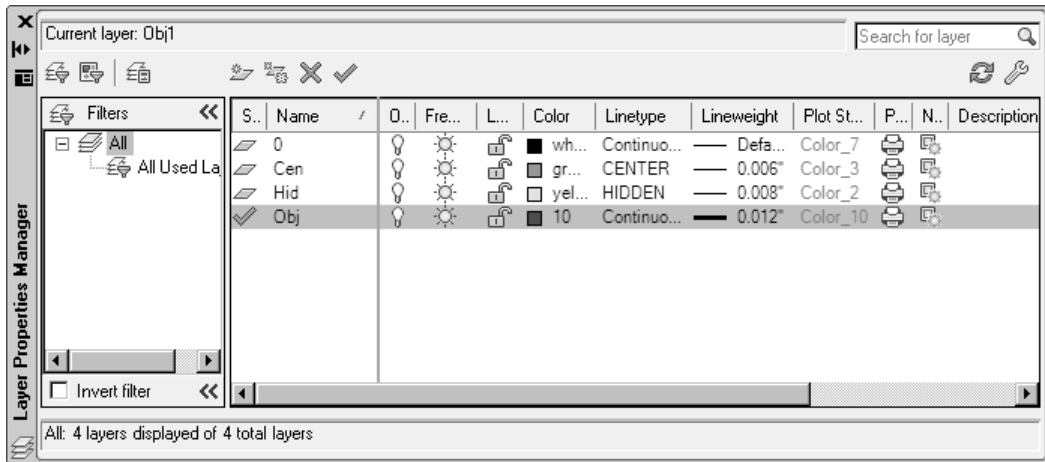

Figure 4-20 Layers created for Example 1
11. Select the **Obj** layer and then choose the **Set Current** button to make the **Obj** layer current, see Figure 4-20. Choose the **Close** button to exit the dialog box.